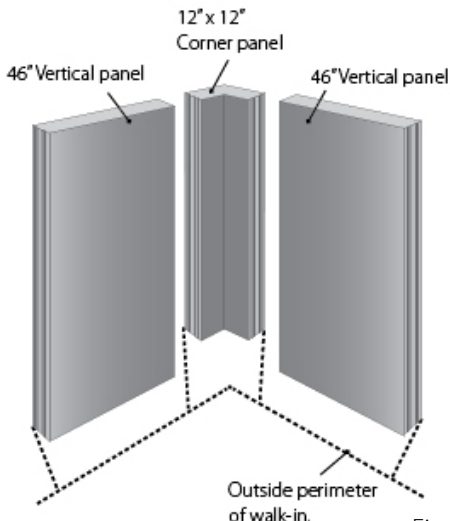

Figure 5
- A. After you have checked that the building floor is level, use a transient or builders level to find the highest point on the perimeter. Position the first 12 x 12 corner to be level with the high point. Begin at corner and align panels at the top. See Figure 5.
- C. Place your hand near the bend in the wrench as shown in *Figure 5* and use a lift-up motion. This will produce a clamping action on the hex rod. While doing this, pull forward until the rod is free of the panel. The locking arm will then drop free.